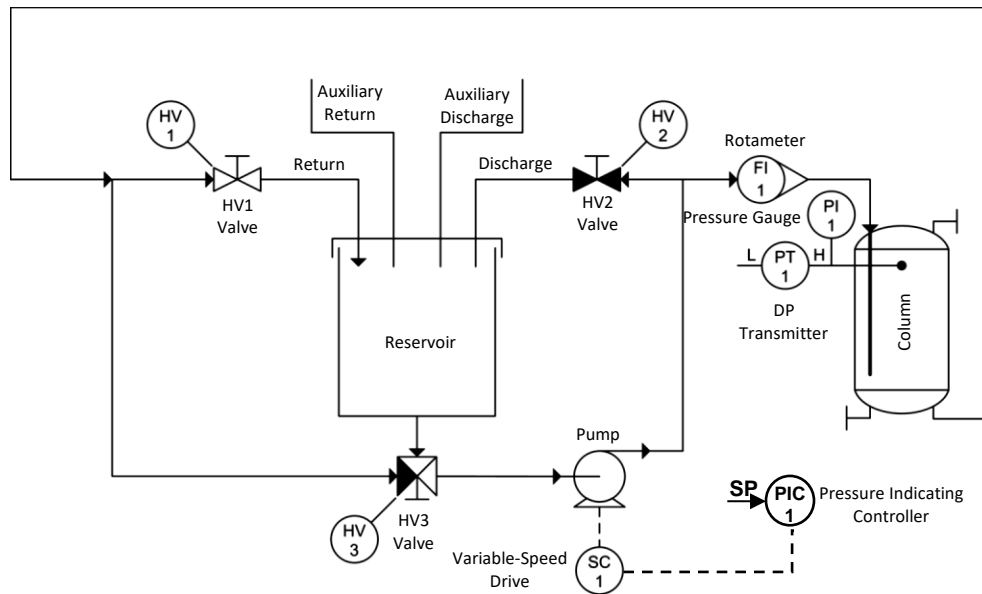

Figure 2: Flow Diagram: Pressure Process Characterization
Figure 2 shows the **flow diagram**, which represents the functional relationship between measuring, recording, and controlling devices of a Pressure Process System.
1. Set up the Pressure Process shown in Figure 2